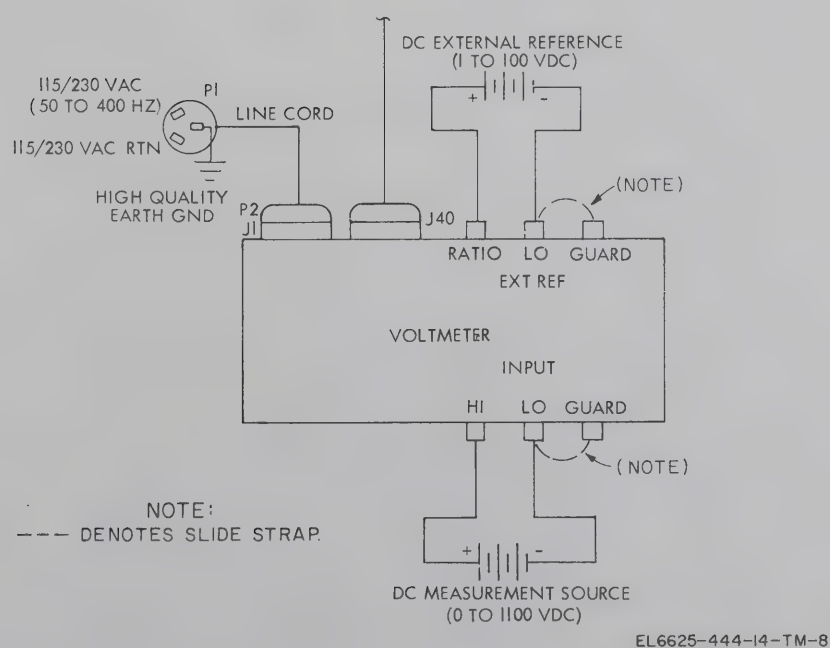

Figure 2-3. Equipment connections.
(4) Make the appropriate connections at the rear panel as shown in figure 2-3. The voltage